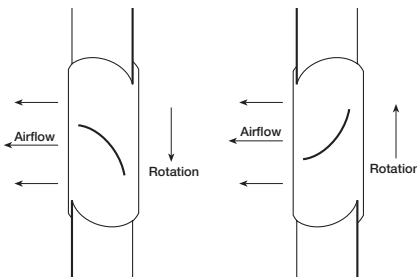
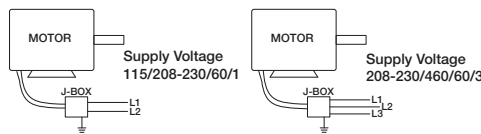

Figure 7 — Rotation Decal
Figure 12 — Typical Wiring Diagram
12. Rotation direction of the propeller should be checked momentarily by turning the unit on. Rotation should be in the same direction as the rotation decal affixed to the unit or as shown in Figure 7. For 3-phase installations, fan rotation can be reversed by interchanging any two of the three electrical leads. For single phase installations follow the wiring diagram located on the motor or see Figure 12.
2. Wire motor for desired voltage per wiring diagram on motor or refer to Figure 12 for connection wiring diagram.
2. Start the fan up and shut it off immediately to check rotation of the propeller with directional arrow in the motor compartment. Refer back to Figure 7.